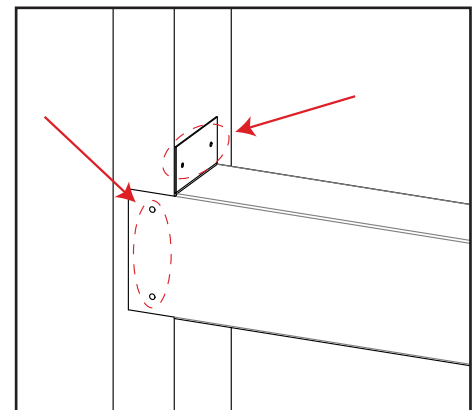

**Figure 28: Steel Stud Placement**
- Place the steel stud onto the top standoffs and slide outwards until both ends make contact with the framing studs (see Figure 28).